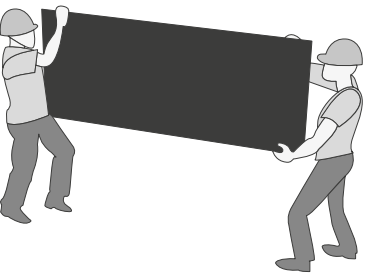

Figure 1
- For further transport, the ALPOLIC™ panels should always be lifted and carried vertically by two people. To do this, grasp the panel at the four corners as shown in figure 1 and lift it (do not pull it over each other).